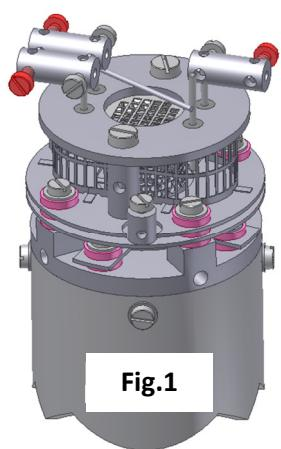

Fig.1
3. Loosen the three M2x4 screws highlighted in red that secure the filament connecting wires, see Fig.1.
3. Loosen the two M2x4 screws highlighted in red that secure the filament connecting wires, see Fig.1.